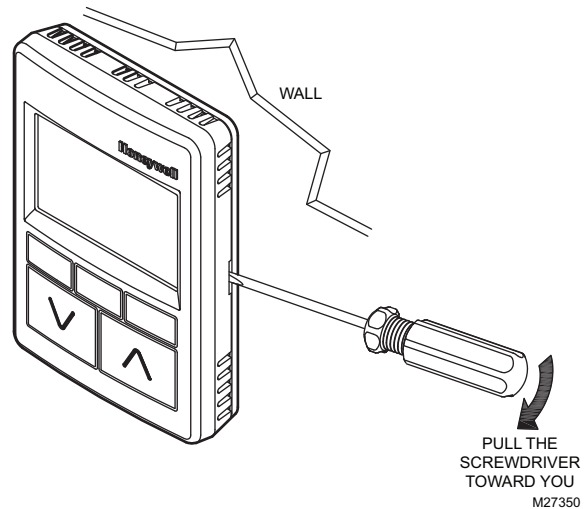

Fig. 7. Removing Wall Module from Subbase.
1. Insert a thin, flat-blade screwdriver into the slot on the right side of the wall module (see Fig. 7).